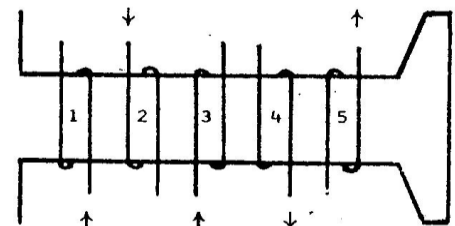

Fig. 4.11 Question 4.8
**4.8** Fig. 4.11 shows a pole excited by five coils, with currents as indicated by the arrows. Write the expression for the total mmf per pole in terms of the currents and turns of the individual coils.